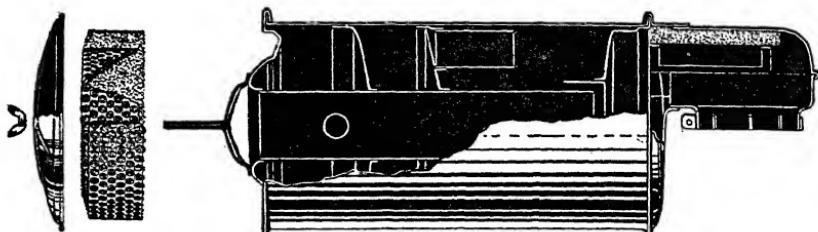
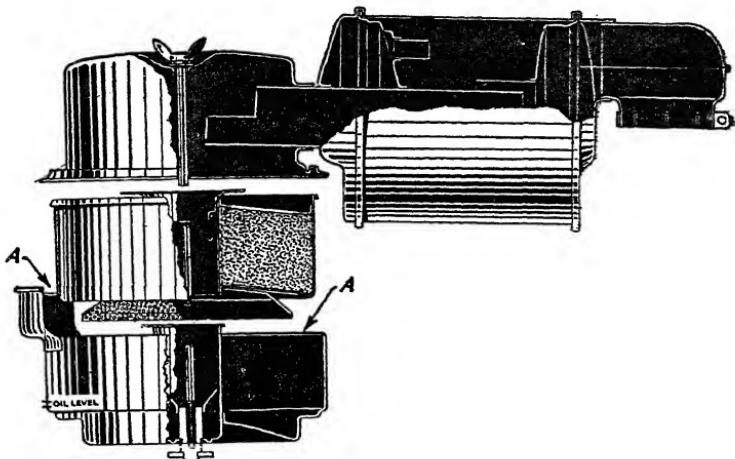

Fig. 13. Buick Series 60-80-90 Air Cleaner (Regular)
Fig. 14. Buick Heavy-Duty Air Cleaner
**Buick Air Cleaners.** Fig. 12 illustrates the 1937, Series 40, Buick air cleaner. Fig. 13 illustrates the regular air cleaner used
Air enters the copper mesh cleaning element in case of Fig. 12 or Fig. 13. It is divided into small streams and thus exposes dust to the oil-covered surfaces. This dust then clings to the oil, leaving the air clear as it enters the engine. This same copper mesh element also acts as a flame arrester in case of back fire. In order to quiet the air intake, resonance chambers are provided and lined with felt pads. The design is such as to quiet the intake sound. In case of the heavy-duty intake silencer and air cleaner illustrated in Fig. 14, the air and dust enters at A and passes down into the lower chambers through a narrow passage, which causes it to attain a high velocity and as it strikes the oil bath at the bottom of the cleaner, certain of the heavier particles of dust are thrown